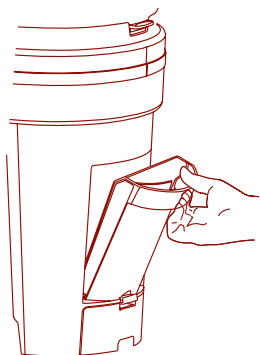

Figure 9
- To remove the Ice Melt Reservoir hold the unit still and pull straight out on the handle (Figure 9).